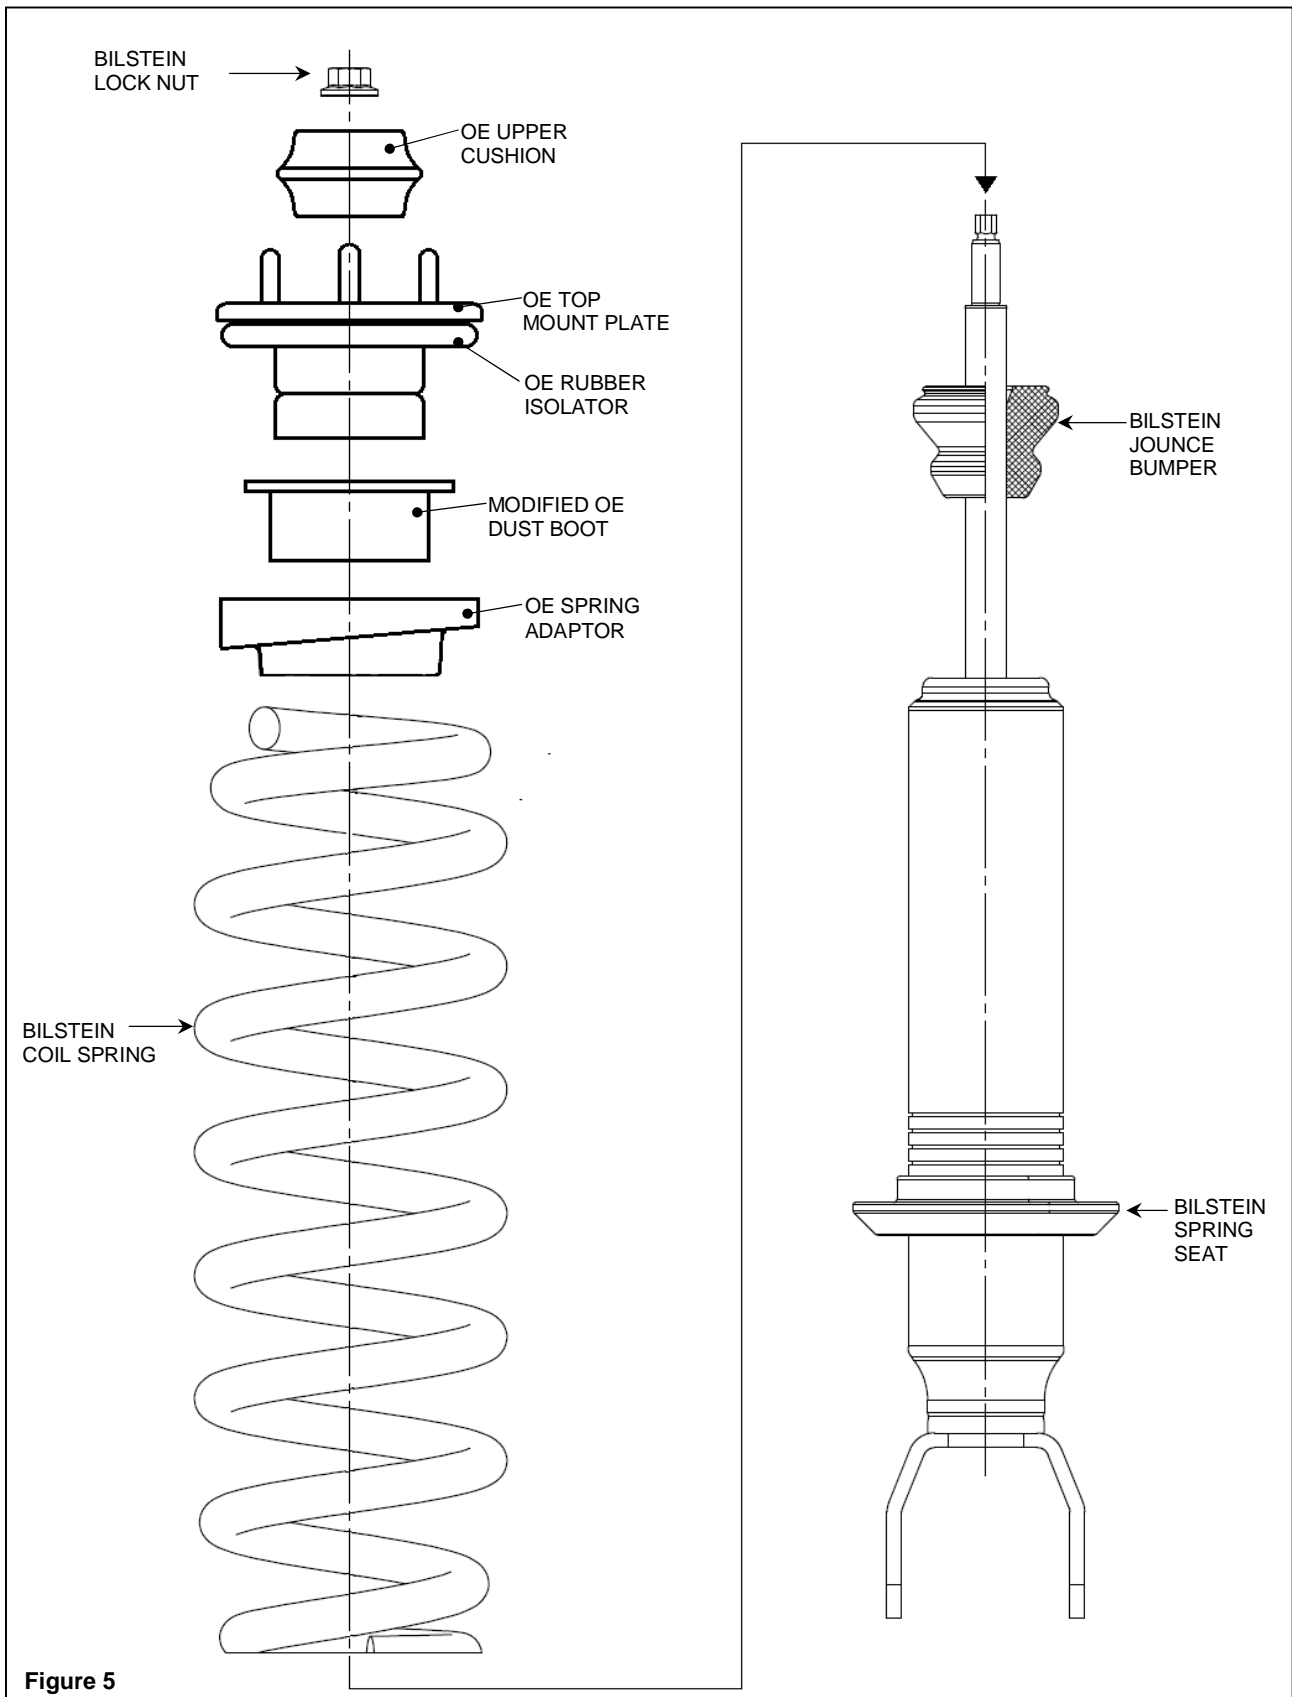

Figure 5
- H. Install the supplied jounce bumper onto the piston rod as shown in Figure 5.
- I. Using an appropriate spring compressor, compress the supplied spring and assemble it with the new Bilstein shock. Ensure that the supplied coil spring is installed in the direction shown only. Refer to Figure 5.
- J. Install the OE spring adaptor, modified OE dust boot, OE top mount plate (including OE rubber isolator), and OE upper cushion over the threaded stem on the new Bilstein shock and on top of the spring. Refer to Figure 5.